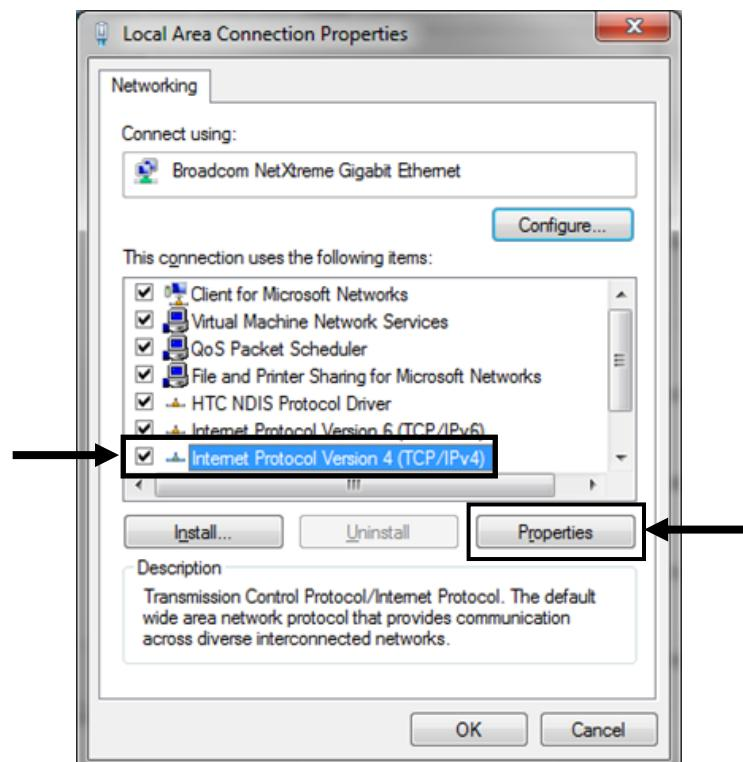

Fig 92. “Internet Protocol Version 4 (TCP/IPv4)” Button and “Properties” Button
5. Select “Internet Protocol Version 4 (TCP/IPv4)” and then click the “Properties” button (Fig 92). This will allow you to set the IP settings for the adapter.